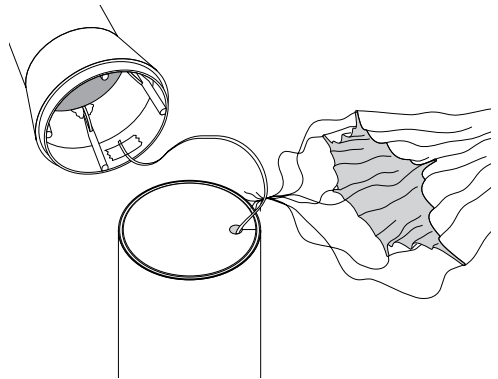

Figure 30
6. Position the deployment disk securely on top of the bellows cup (Figure 30).